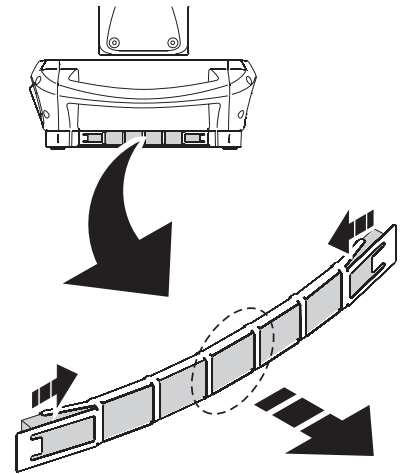

Figure 17: Base air filters
3. See Figure 17. On each side of the base, pinch the air filter holders in from the sides as illustrated, then pull the center of the holders outwards to unclip and remove them.